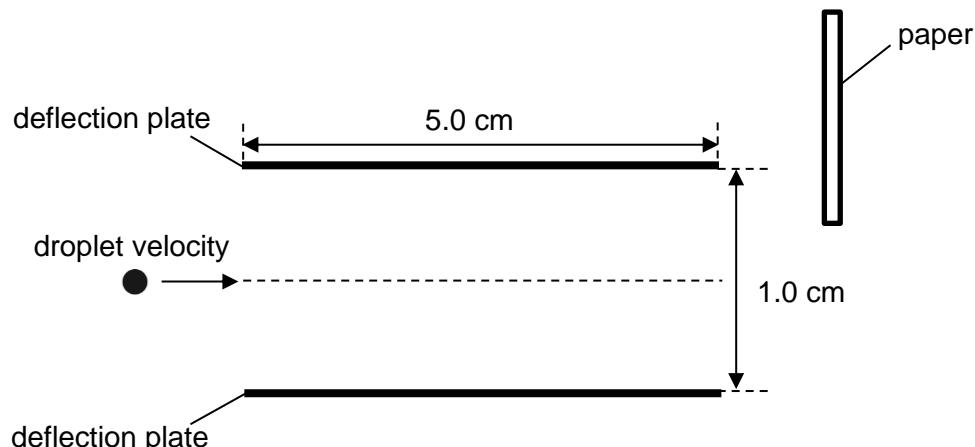

Fig. 8.4 (not to scale)
- (b) Fig. 8.4 shows the deflection plates of the CIJ printer. Droplet A, with a charge of $-1.0 \times 10^{-13} \text{ C}$, enters at the midpoint between the plates at 20 m s^{-1} and is to be deflected upwards towards the piece of paper.
- (i) Draw the electric field lines between the deflection plates on Fig. 8.4. [1]